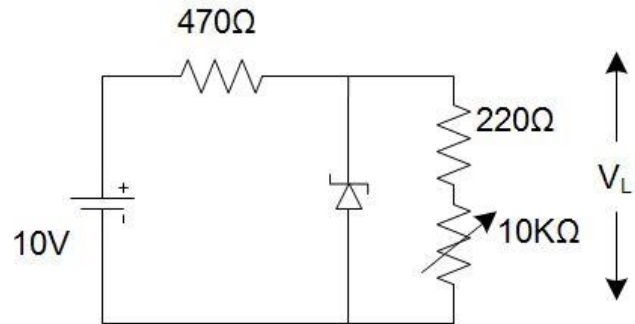

Figure 3.4: Load Regulation
3. Connect the circuit as shown in the figure 3.4